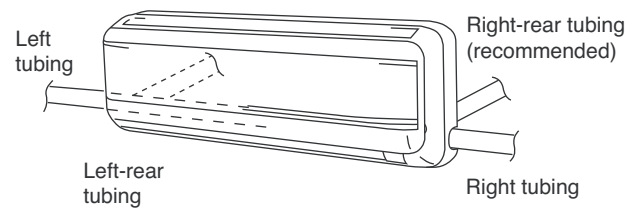

Fig. 12
- (1) Determine which side of the unit you should make the hole for tubing and wiring. (Fig. 12)